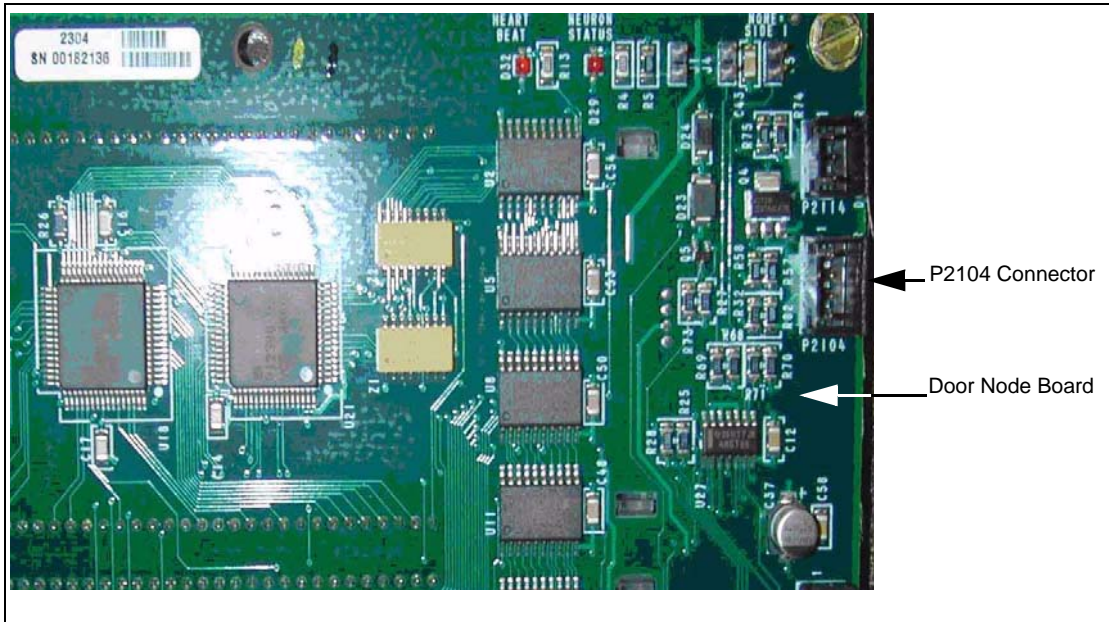

Figure 3: Align Mounting Holes
- 3 Hold the speaker/bracket assembly, such that the speaker cone faces the door and the 2 mounting holes are above the speaker. See Figure 3. Slide the speaker/bracket assembly under the display mounting bracket until the mounting holes align with the mounting holes in the display mounting bracket.